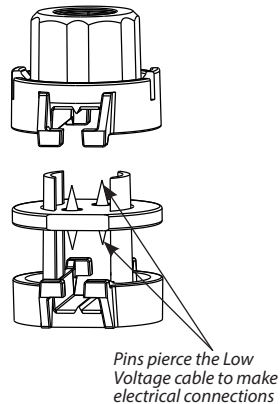

Fig. 2
3. Push down, rotate and tighten connector. The pins pierce through both the cables to make electrical connection between the two as shown in Fig. 2.